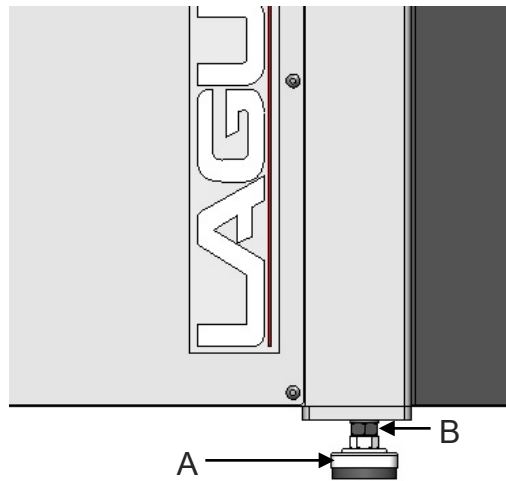

Figure 3: Leveling Feet
1. Level machine using the four leveling feet on each of the four corners. Lock leveling feet into position with the nut on the leveling foot stud (Fig. 3).